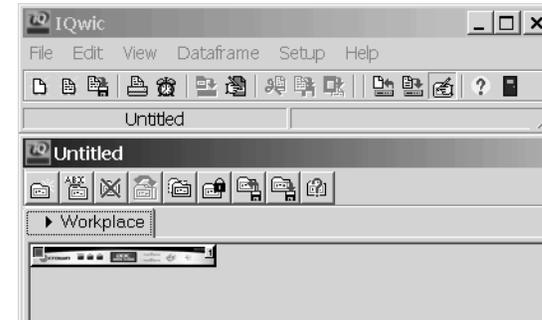

Figure 1.12 The IQwic Toolbar (Top) and Workspace (Bottom)
5. The IQwic toolbar and Workspace appear. An icon of the DBC Network Bridge appears in the Workspace (Figure 1.12).